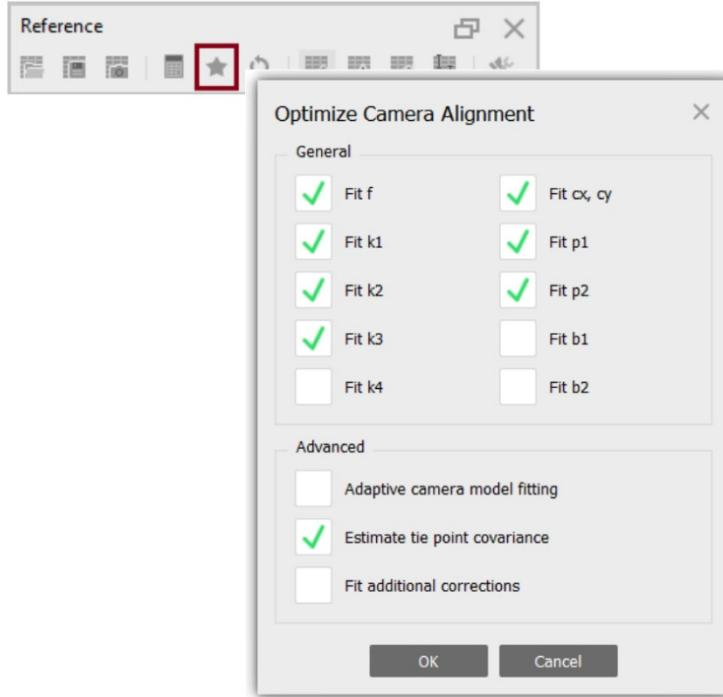

Figure 4.8 Screenshot of ‘Optimize Camera Alignment’ dialog
1. Click on the star [] in the toolbar of the Reference pane to Optimize the alignment (Figure 4.8).